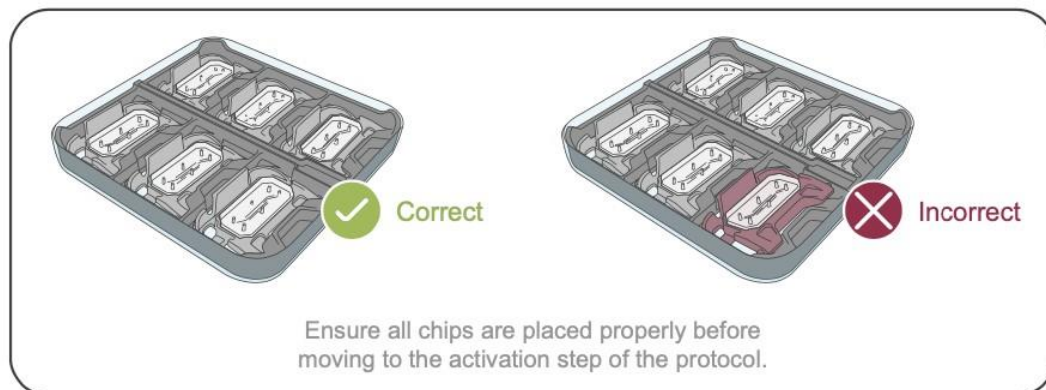

Figure 1. Place chips by sliding under the tab of the Chip Cradle.
4. Repeat as necessary for each of the chips included in the experiment (See Figure 1).